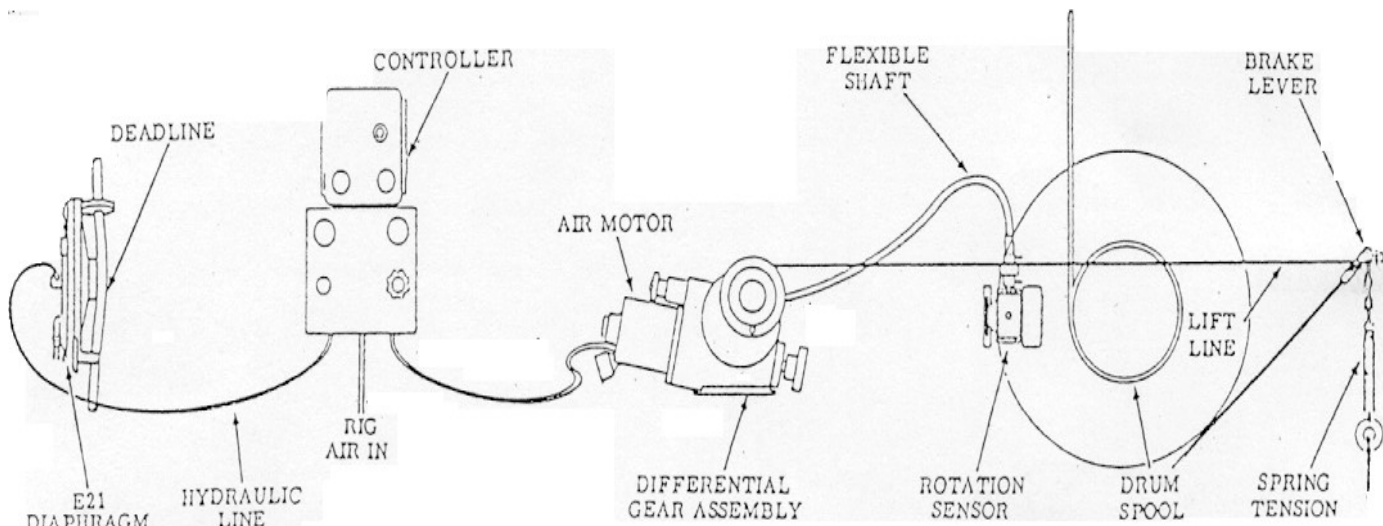

Figure 2-1
2.01 The Satellite automatic driller is a control system for maintaining the optimum weight on the bit. Satellite operation is based on the relation between the weight on the bit and the deadline tension. As deadline tension increases from the value preset in the controller, the Satellite pays out the drilling line by raising the brake lever to release the drum, and then stops drum rotation by lowering the brake lever when the preset weight on the bit is reached. Figure 2-1 shows the general arrangement of the Satellites components.
3.02 Deadline Tension Sensor Installation: The air deadline tension sensor assembly is an optional accessory to be used when a weight indicator is not available, or not convenient to use. Refer to Figure 2-1 for installation if using the air sensor. The usual method, however, is to tee into the hydraulic line of the anchor weight indicator. This tee should be close to the indicator. This tee should be close to the indicator to keep the hose as short as possible. Another location for deadline tension signal pickoff is to tee into the hydraulic line to the weight channel of the drilling recorder, or other hydraulic recorder.